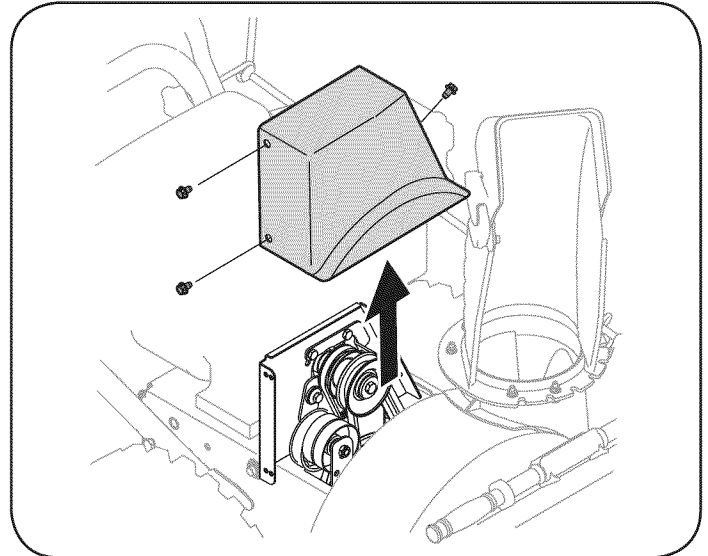

Figure 27
2. Remove the plastic belt cover, located near the engine, by removing the three self-tapping screws that secure it. See Figure 27.